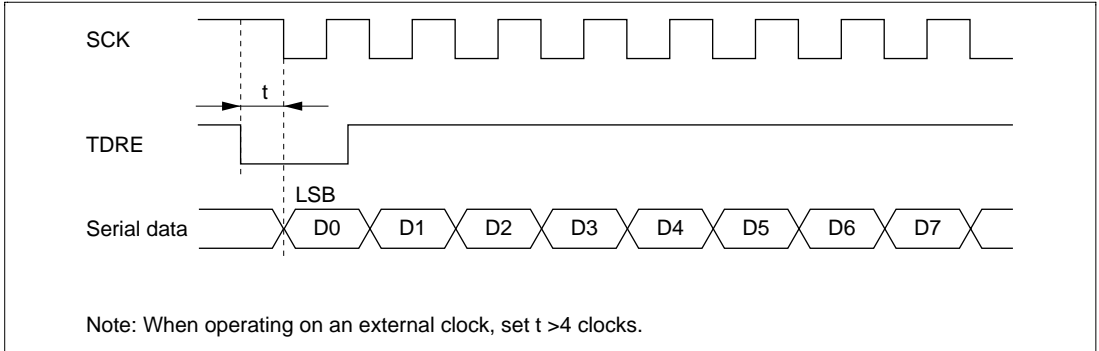

Figure 16-24 Example of Clocked Synchronous Transmission by DTC
- When an external clock source is used as the serial clock, the transmit clock should not be input until at least 5 ϕ clock cycles after TDR is updated by the DMAC or DTC. Misoperation may occur if the transmit clock is input within 4 ϕ clocks after TDR is updated. (Figure 16-24)